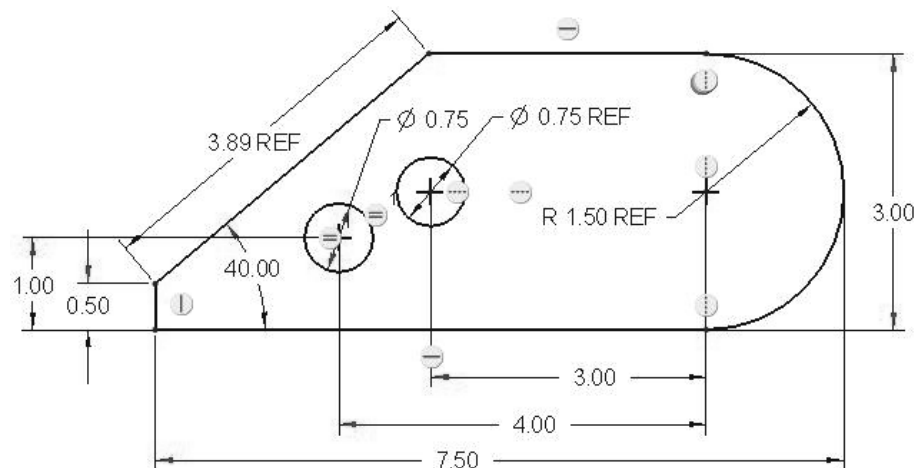

Figure 3-24 Design Intent Dimensions
- Step 9:** Use  to add a reference dimension showing the diameter of the other small hole, the value of the big radius, and length of the slanted line. These dimensions are not needed to define the figure, thus they are for reference only (Figure 3-24). Normally you would not do this, but we are practicing here.